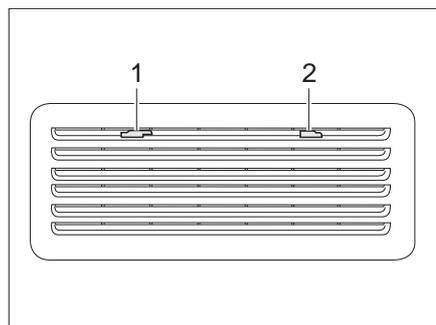
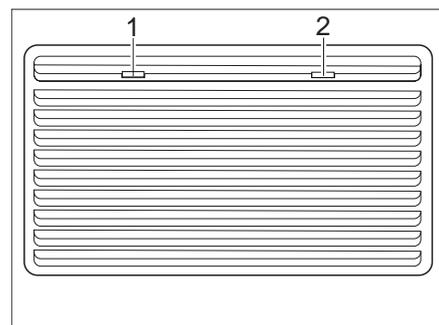

Fig. 143 Refrigerator ventilation grill
Fig. 144 Refrigerator ventilation grill
- Slide the locking devices (Fig. 143,1 and 2 or Fig. 144,1 and 2) to the middle.